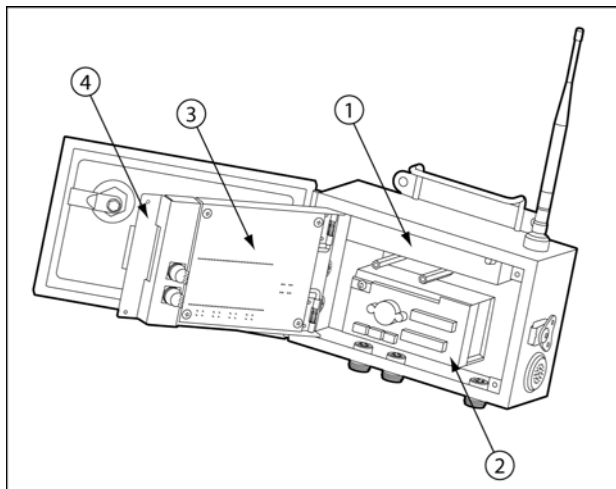

Figure 3. Detector Internal Components
- Figure 3 and Table 6 describe the internal components of the detector.